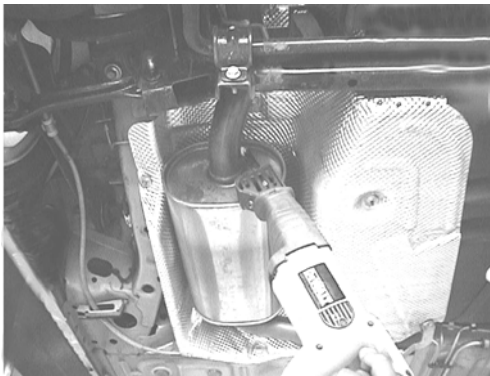

Figure 1
1. Using a reciprocating saw or a hacksaw, cut the tailpipe just after the muffler as shown in figure 1.